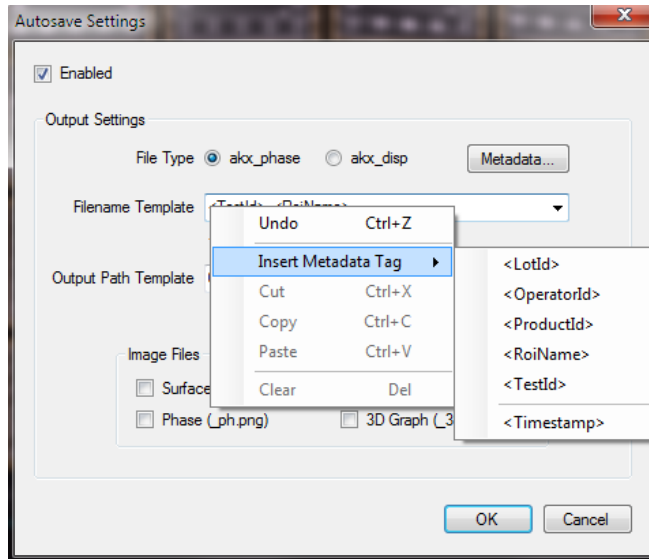
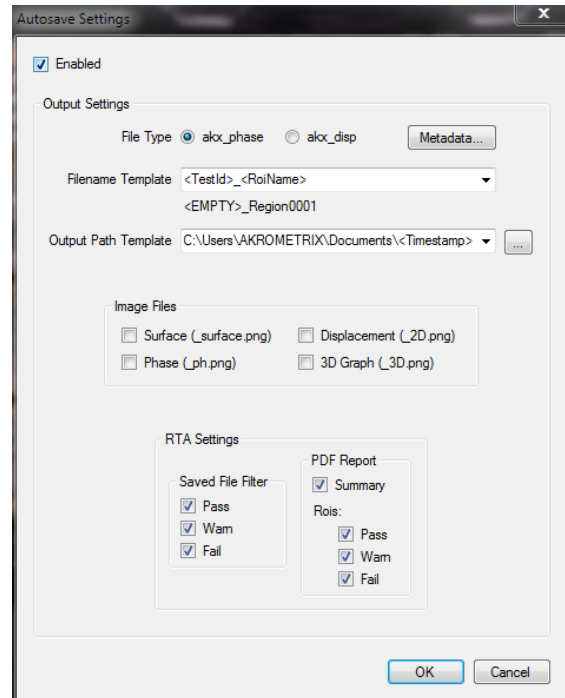

Figure 2.24 Autosave Settings
Figure 2.25 Autosave Settings w/ RTA enabled
- **Autosave Settings** – Allows the user to control autosave settings for phase and displacement measurements acquired in this program. Metadata settings can be used to populate filenames, as shown in **Figure 2.24**. See **Appendix A.1.1** for available Metadata fields. When RTA is enabled (**Figure 2.25**), files saved can be filtered by pass/warn/fail determination and the user can choose whether or not to save a summary PDF report with or without ROIs filtered by pass/warn/fail as well.